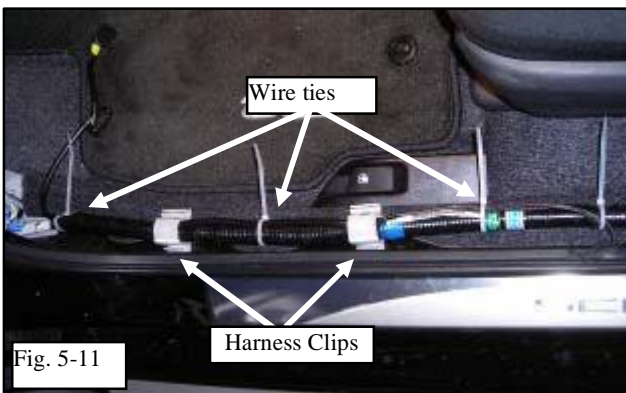

Fig. 5-11
- (1) Make sure the harness goes through the two harness clips.
- (2) The harness clip can be opened by pulling outward on the retaining tab located to the right of the clip.
- (3) Secure the harness to the OE harness with three (3) wire ties as shown. (Fig. 5-11)